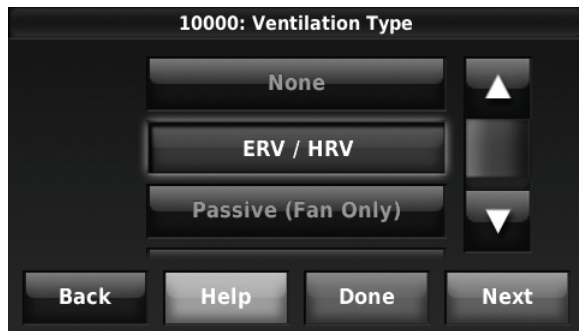

Fig. 253.
1. Select the Ventilation Type in ISU 10000. See Fig. 253.